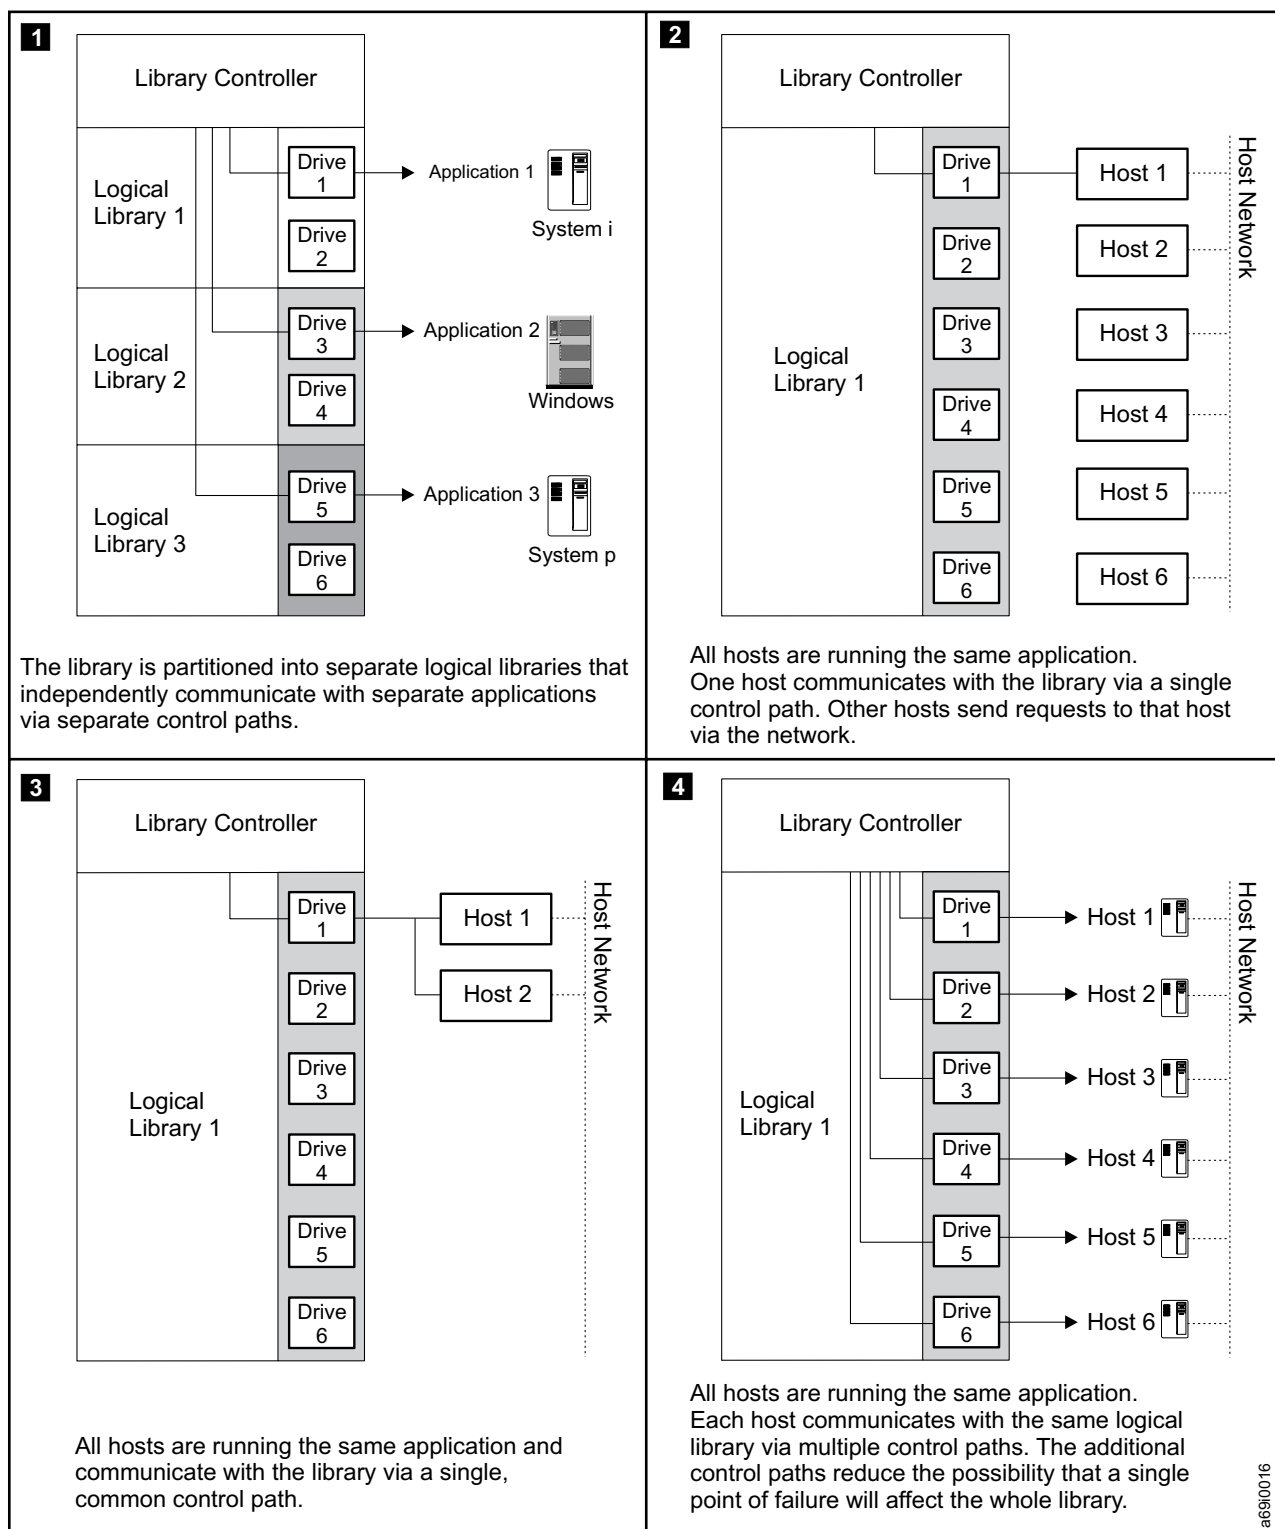

Figure 11. Examples of configurations for sharing an TS3500 tape library. Lines from one or more drives to the library controller represent control paths.
- Configure the library so that it is partitioned into separate logical libraries that independently communicate with separate applications through separate control paths. This configuration (see example **1** in Figure 11 on page 42) requires no special capabilities from the server or application.
- Configuring one server (mainframe host) to communicate with the library through a single control path; all other servers send requests to that server through a network (see example **2** in Figure 11 on page 42). This configuration is used by Tivoli[®] Storage Manager (TSM).
- Configuring all of the servers to communicate with the library through a single, common control path (see example **3** in Figure 11 on page 42). This configuration is used in high-availability environments such as High-Availability Cluster Multi-Processing (HACMP[™]) from IBM and Systems Management Server and Clustered Server Environments from Microsoft. Multi-initiator configurations are only supported by certain adapters and independent software vendors (ISVs). Check with your ISV.
- Configuring a single logical library to communicate with multiple servers through multiple control paths. This configuration (see example **4** in Figure 11 on page 42) requires that you add control paths. It is used by Backup, Recovery, and Media Services.
Your library configuration is not limited to the examples shown in Figure 11 on page 42. Many configurations are possible, and you can design them according to your business needs.